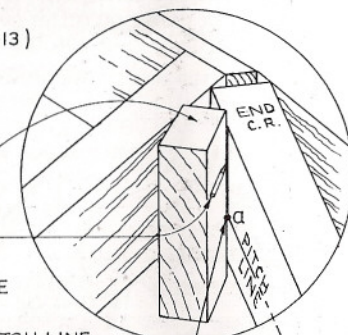

FIG. 24
i. Hip lengths may be calculated (PAGE 13) or 'stepped off' (PAGE 16) but unless wall plates are fixed square and level it may be best to find the length by direct measurement along the hip pitch line. (FIG 24)
i. Measure and mark the length as in FIGS. 24 & 25 PAGE 11.
ii. Assuming the corner of wall plate is cut off as in FIG. 24, mark plumb line b as before.